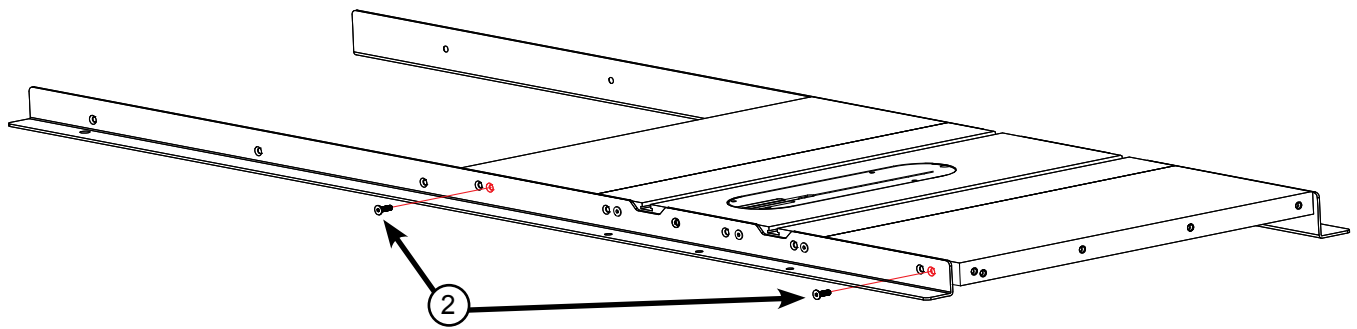
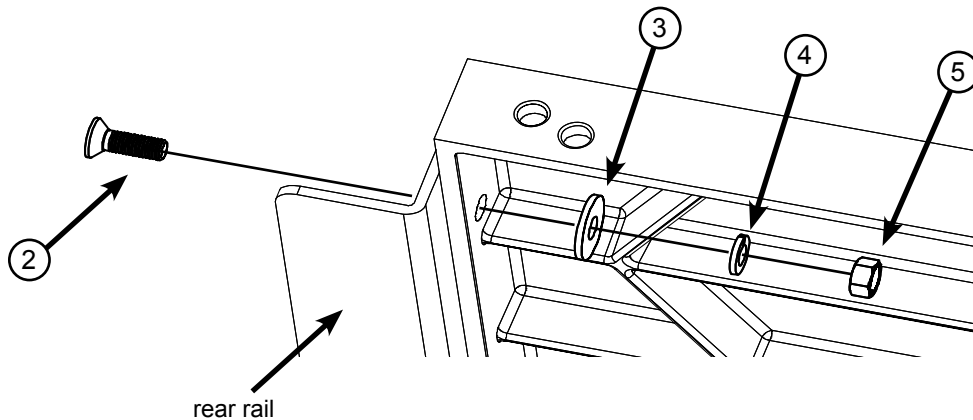

Fig. 5a
Fig. 5b
5. Finish mounting the rear rail to your saw by inserting an M8 x 25 countersunk socket head bolt through the open hole at the end of each extension wing (see Fig. 5a), and placing an M8 washer, an M8 lock washer, and an M8 hex nut on the threaded end of each bolt (see Fig. 5b). Hand tighten the nuts; do not fully tighten them.